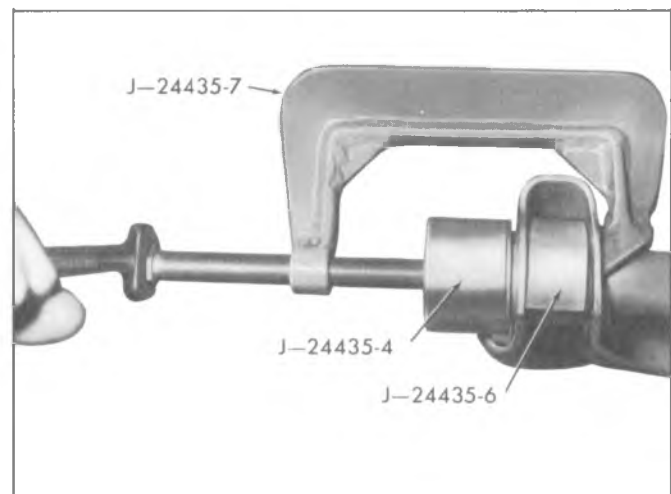

Fig. 3C-26--L.C.A. Rubber Bushing Installation
Bushing Installation (Fig. 3C-26)
1. Install new bushings as shown in Figure 3C-26 using spacer J-24435-6, installer J-24435-4 and "C" clamp J-24435-7.
CAUTION: Be sure spacer J-24435-6 is in position as shown in Figure 3C-26 to avoid collapsing control arm during assembly.